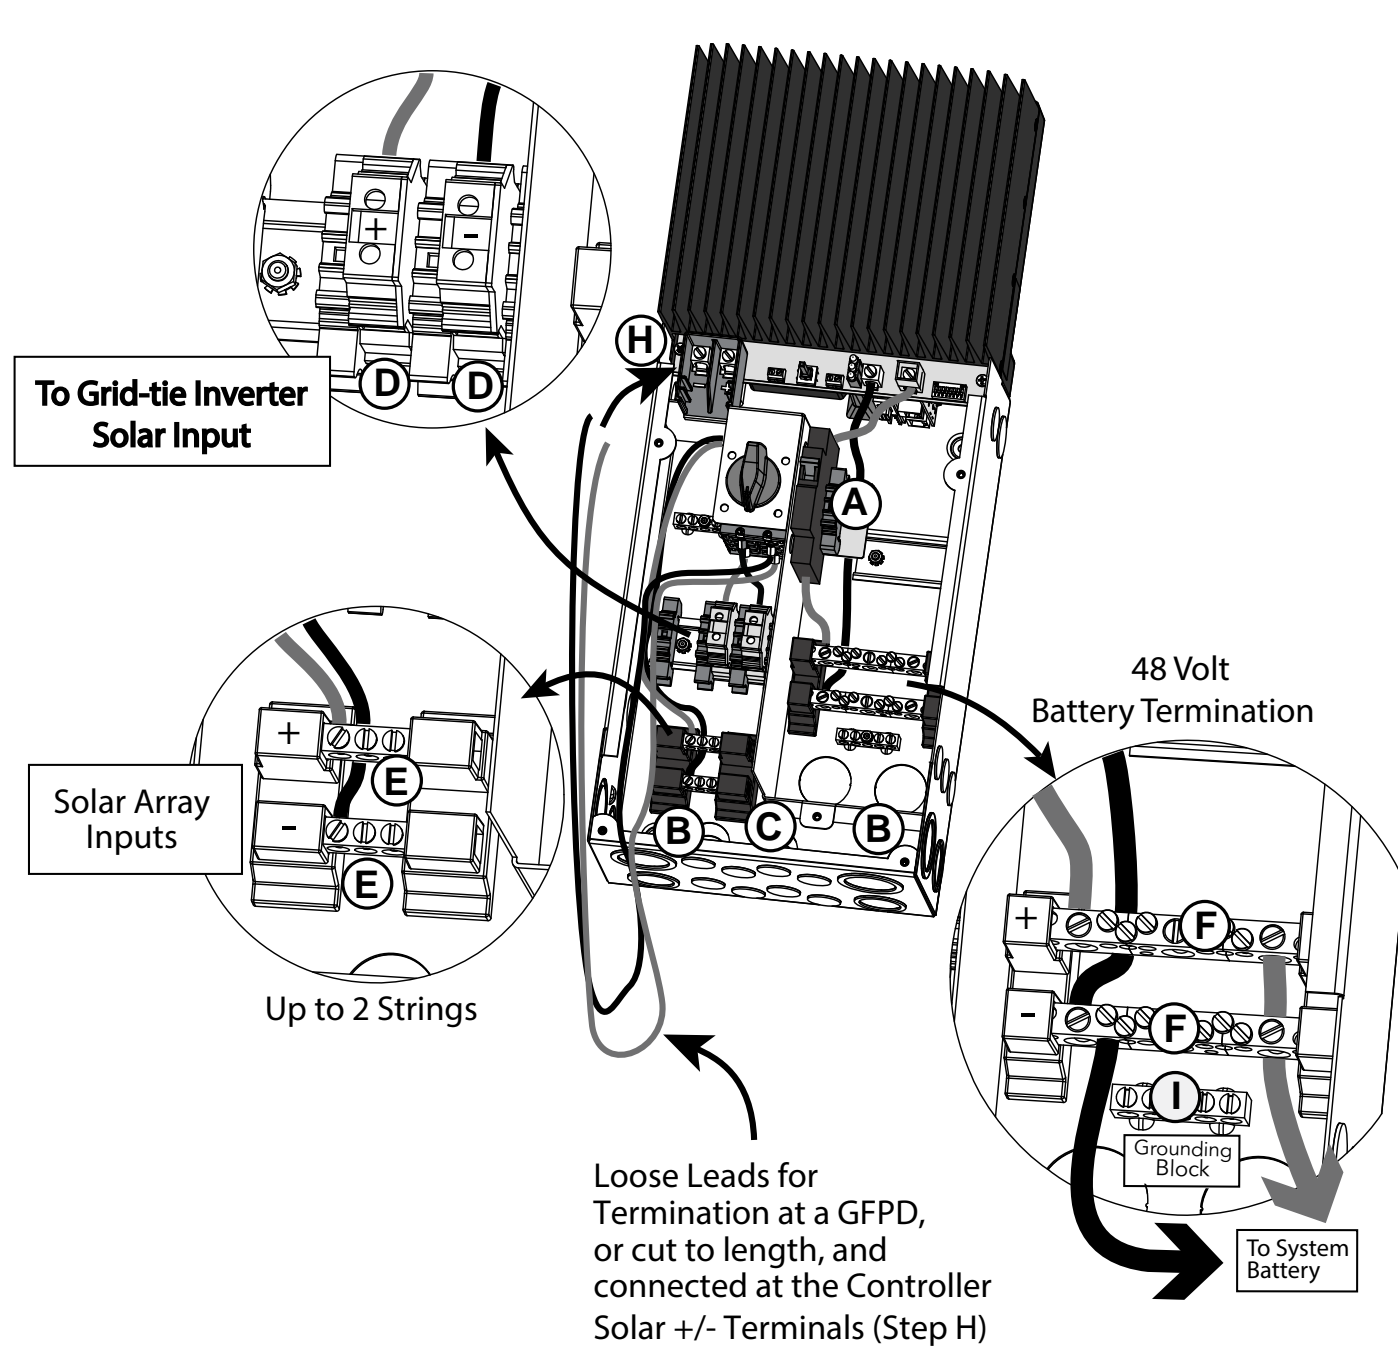

Figure 3-10. Power Connections - TR Box Only
Using the following steps, connect the power conductors corresponding to the lettered references shown in Figures 3-10 and 3-11 on pages 30-31.
H. The TS-MPPT-600V-TR (option without GFPD) is shipped with unconnected transfer switch solar battery charging wires. As shown in Figure 3-10 on page 30, connect these (+) and (-) wires to either the controller's (+) and (-) solar terminal lugs, or route through a GFPD-600V, and then connect the GFPD return wires to the controller's (+) and (-) solar terminal lugs.